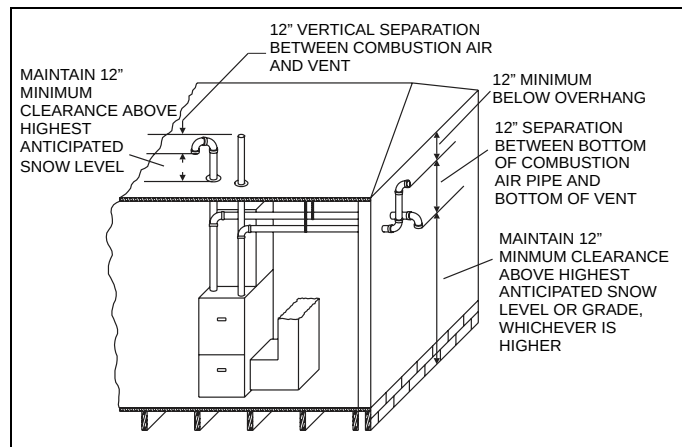

FIGURE 18: Termination Configuration - 2 Pipe
8. Sealed combustion air systems must be installed so the vent and the combustion air pipes terminate in the same atmospheric zone. Refer to Figures 18, 19 & 20.